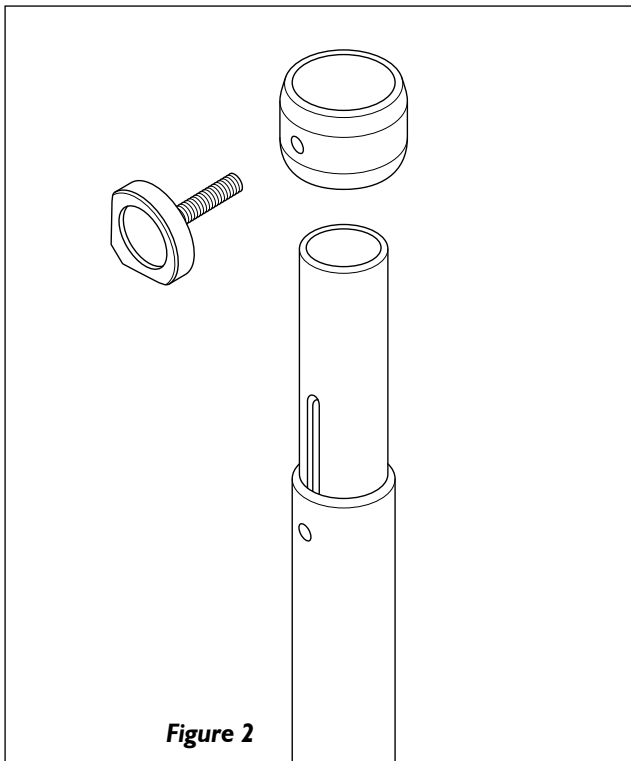

Figure 2
7. To adjust the height of the post (see *Figure 2*):